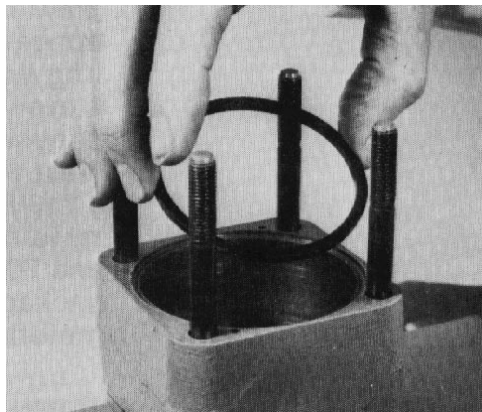

Figure 88
25. Put the bearing spacer onto the face of the upper cover plate (Fig. 88).